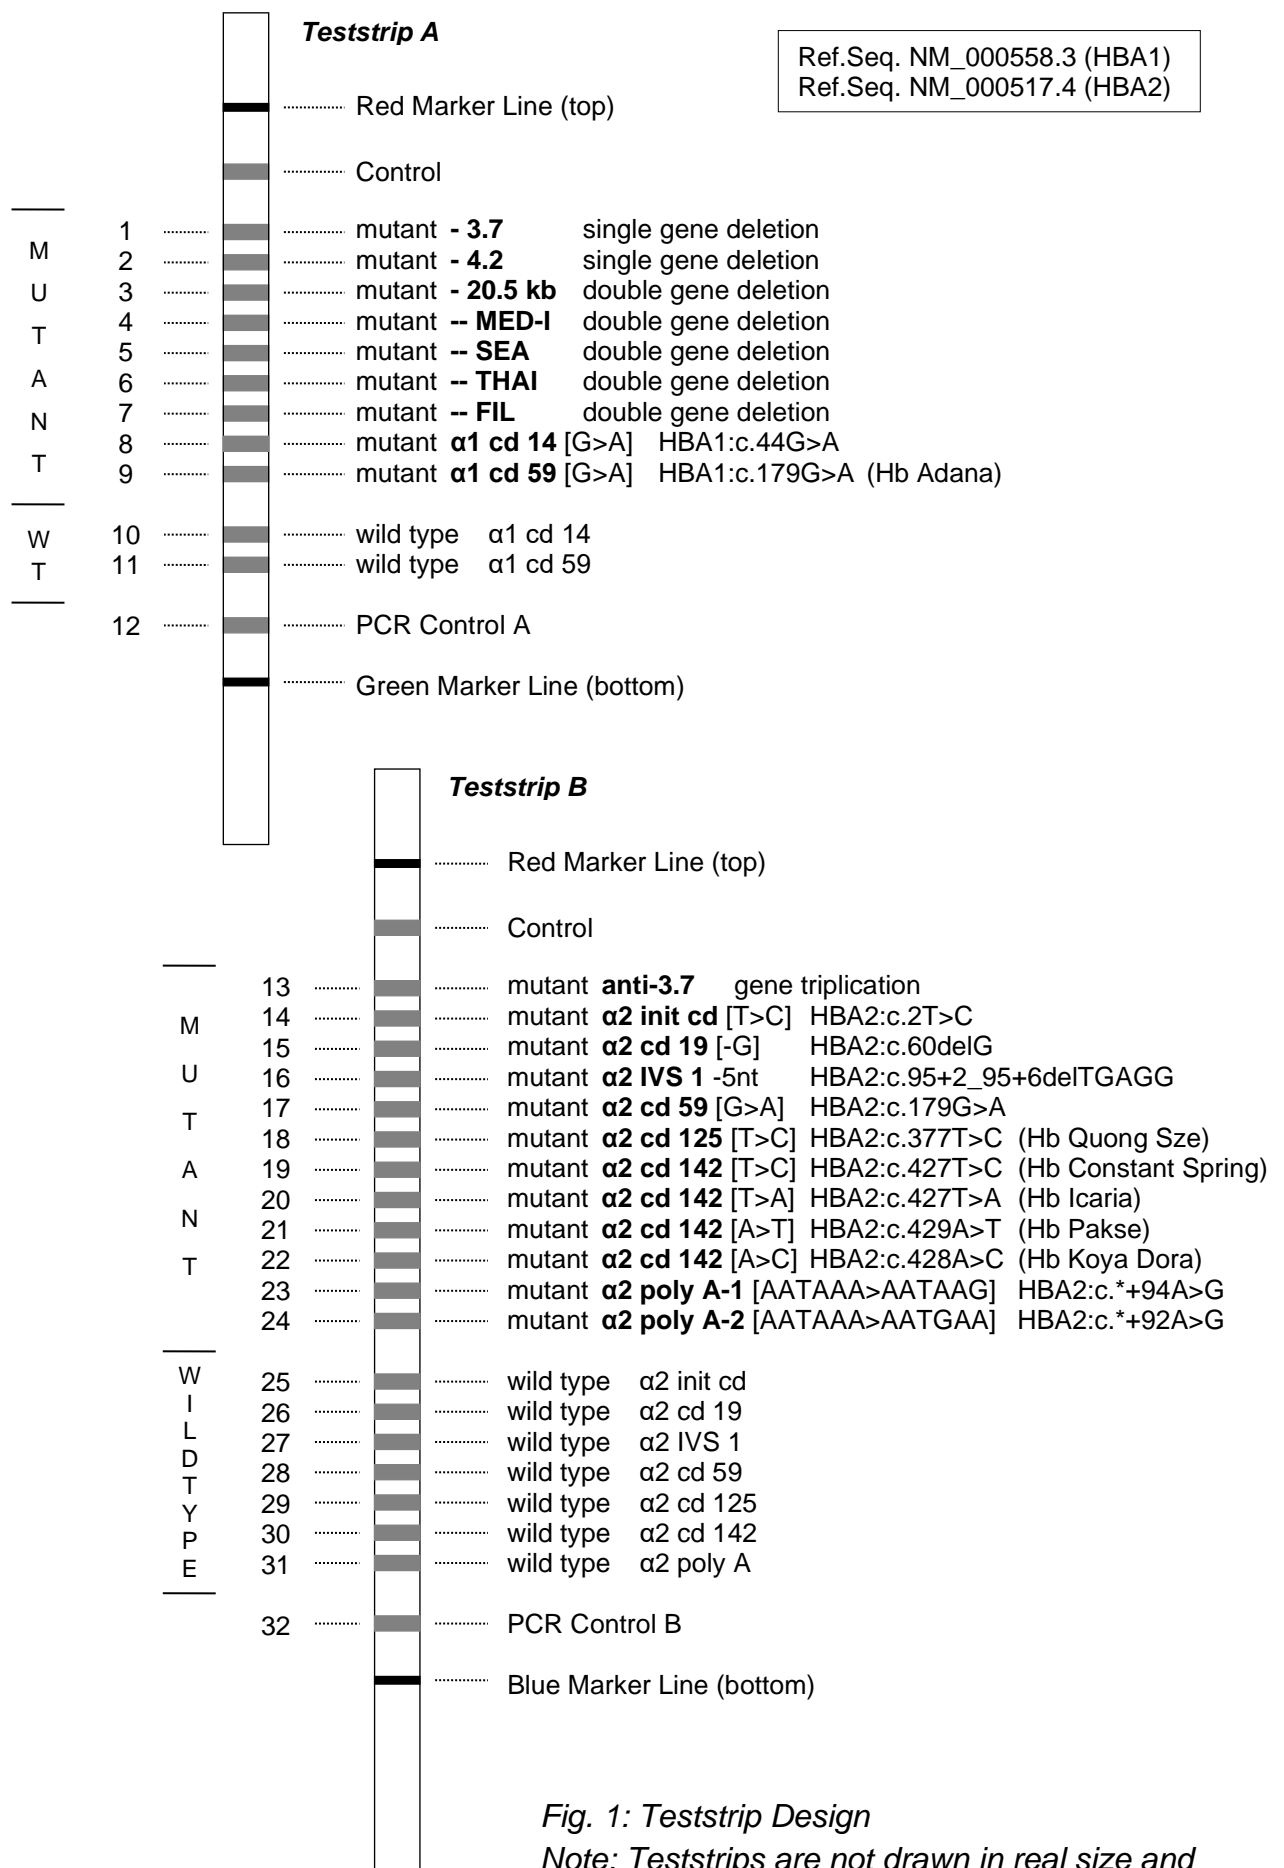

Fig. 1: Teststrip Design
The procedure includes three steps: (1) DNA isolation, (2) PCR amplification using biotinylated primers, (3) hybridization of amplification products to test strips containing allele-specific oligonucleotide probes immobilized as an array of parallel lines (Fig. 1). Bound biotinylated sequences are detected using streptavidin-alkaline phosphatase and color substrates.